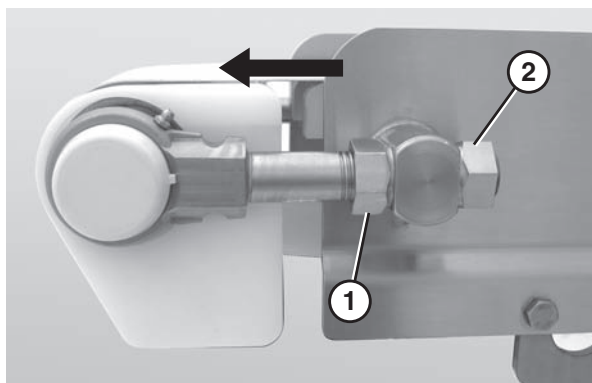

Figure 51
2. Turn the front nuts closest to the tail (Figure 51, item 1) clockwise in order to increase tension on the belt.
3. Tighten the back nuts (Figure 51, item 2) to secure the tail.
1. Loosen the back nut (Figure 51, item 2) on the idler tail shaft that needs to be adjusted.
2. Tighten or loosen the front nut (Figure 51, item 1) on the idler tail shaft adjust the belt tracking.